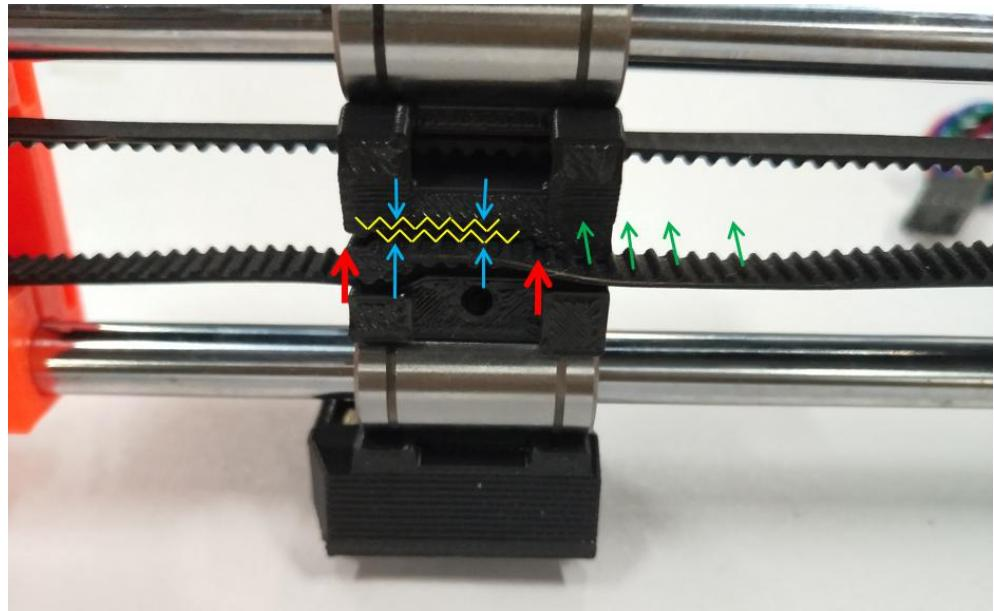

Figure 2.11.13
**Steps 2-11-9:** As shown in Figure 2.11.13, finally install the belt into the other belt installation slot of MINI-x-carriage, requiring the direction of the tooth to be upward.